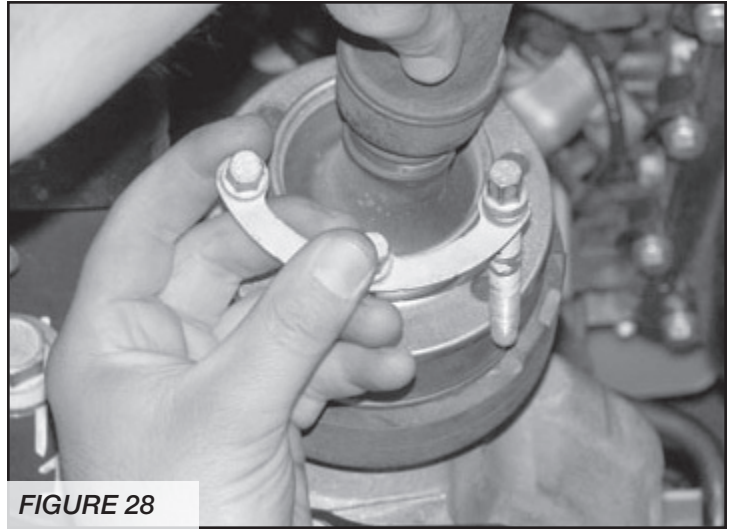

FIGURE 28
25. Reinstall the front drive shaft with the factory hardware and torque to 35 ft-lbs. **SEE FIGURE 28**